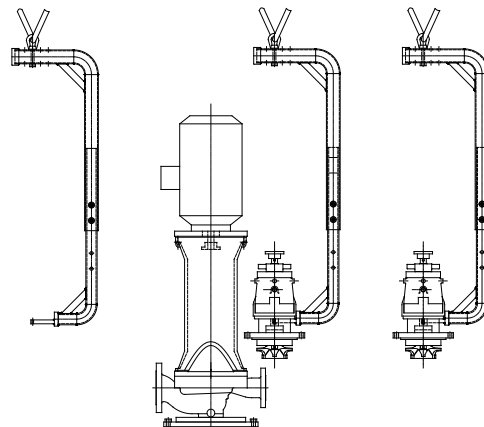

Figure 6.2
- g) Attach the pullout element lifting tool to the pullout element, then lift the element out of the casing [1110]. (See figure 6.2).